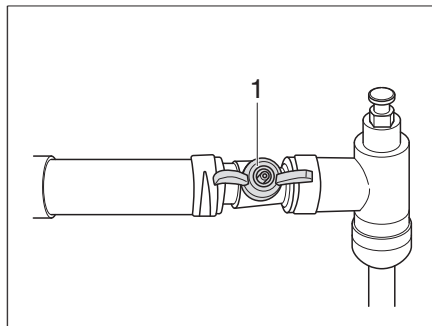

Fig. 295 Alde stopcock, opened
- Set the stopcock (Fig. 295,1) diagonally to the pipe.
- Set the stopcock (Fig. 295,1) parallel to the pipe.